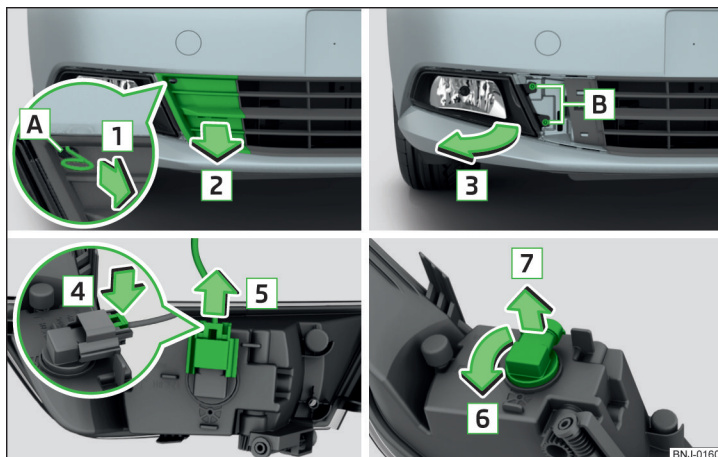

Fig. 192 Removing the fog lamp / changing bulb for fog light switch
- » Fig. 192.
- Push in the latch on the connector in the direction of arrow **4** » Fig. 192.
- » Fig. 192 and tightening.